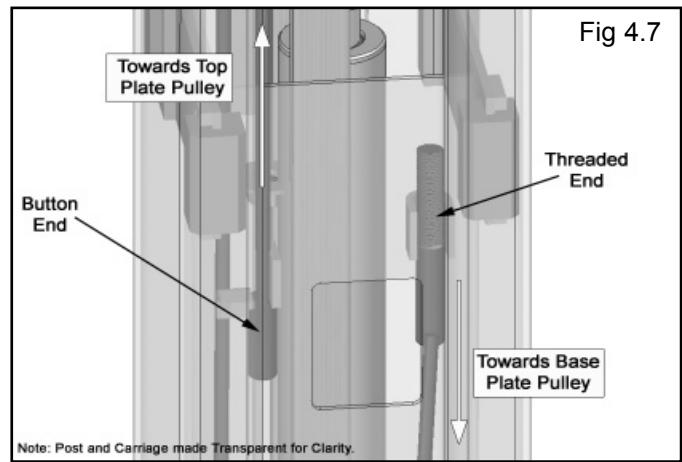

Fig 4.7
6. Route the Button End of the Equalizer Cable through the Cable Retainer located inside the Carriage on the front wall, up to the Top Plate Pulley, around the Pulley and coil the remaining Cable up and leave it in the Column above the Carriage. (See Fig 4.7)